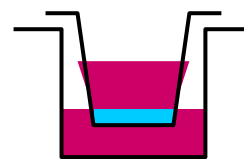

Figure 4
- When all inserts have been filled, place the plate in an incubator for 30-60 minutes to complete the gelation of the BD™ PuraMatrix™. For higher percentage hydrogels, 30 minutes is sufficient; for 0.15-0.25% hydrogels, a one-hour equilibration is preferable. The media levels may equilibrate to some extent between the insert and the well during this period (**Figure 4**).